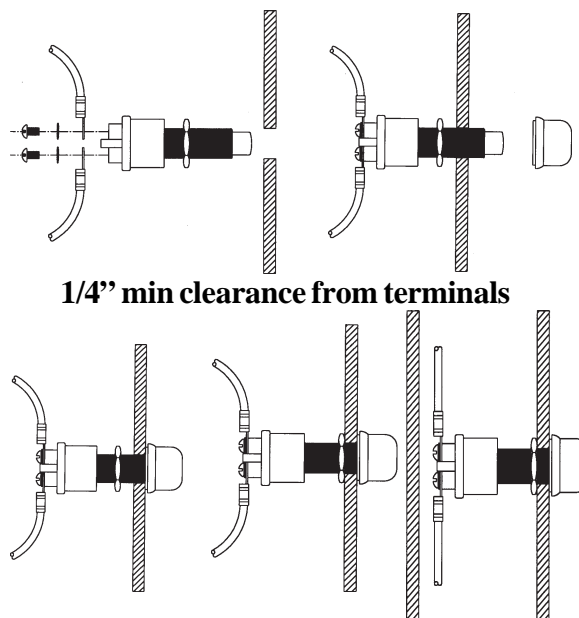

Fig.11
A. Push Button Switch: (see fig 11)